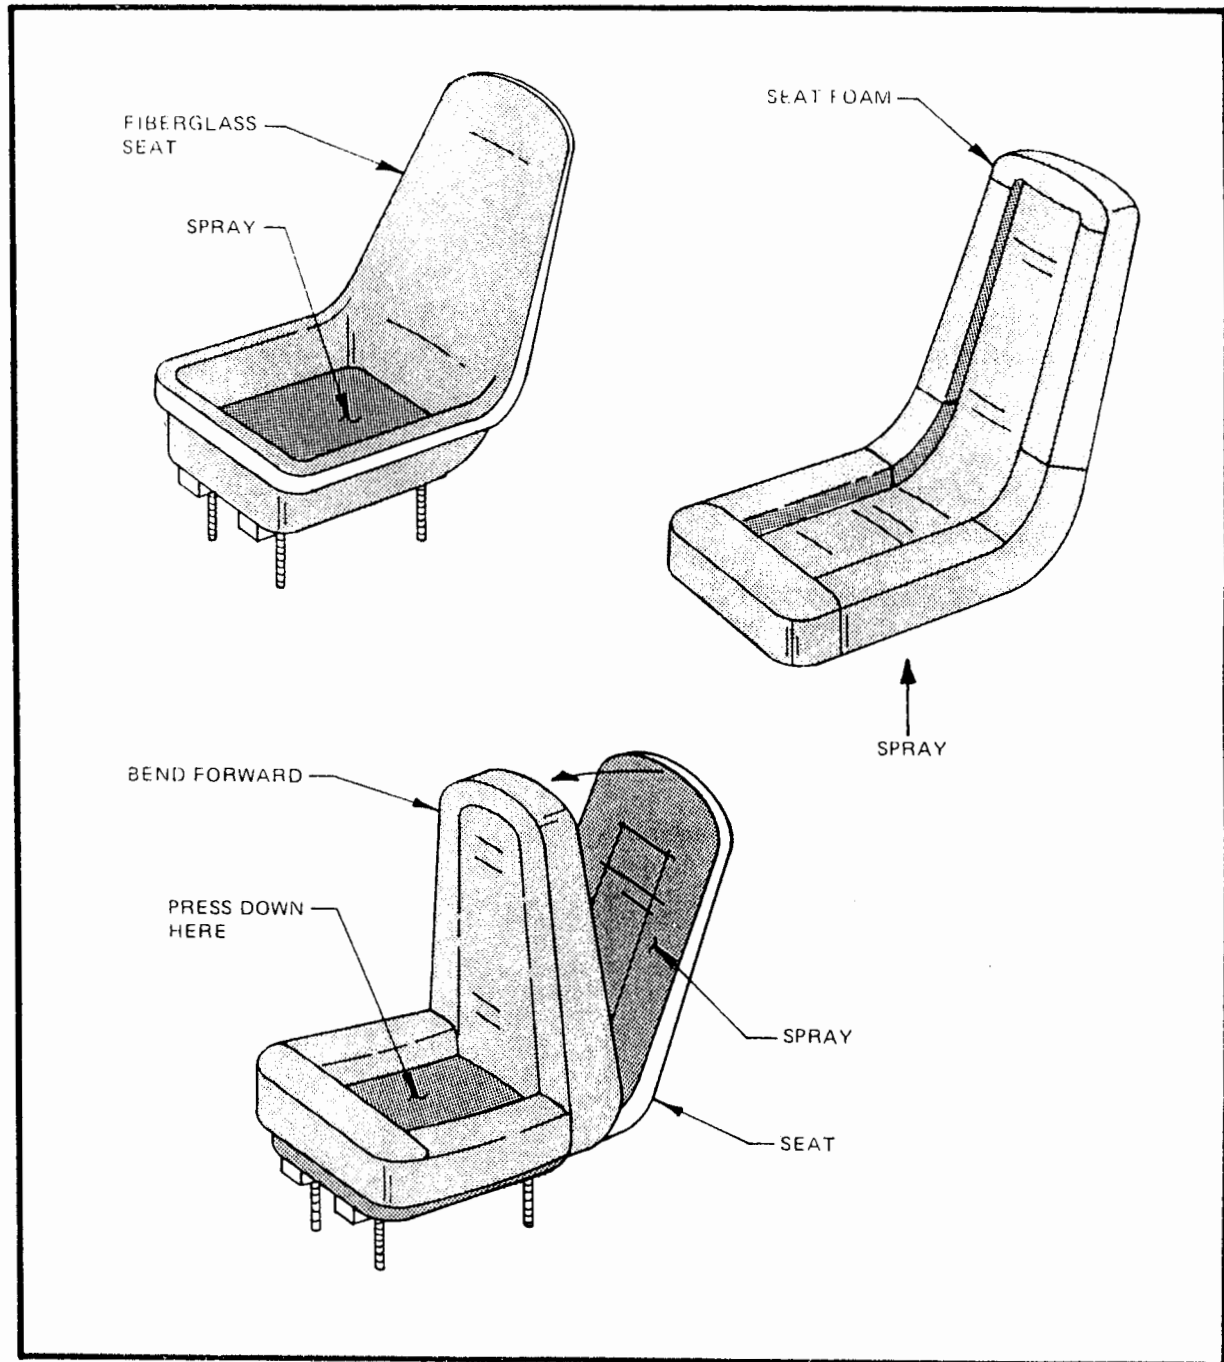

Figure 10
- Pull and stretch the foam over the back of the seat. (Figure 10)